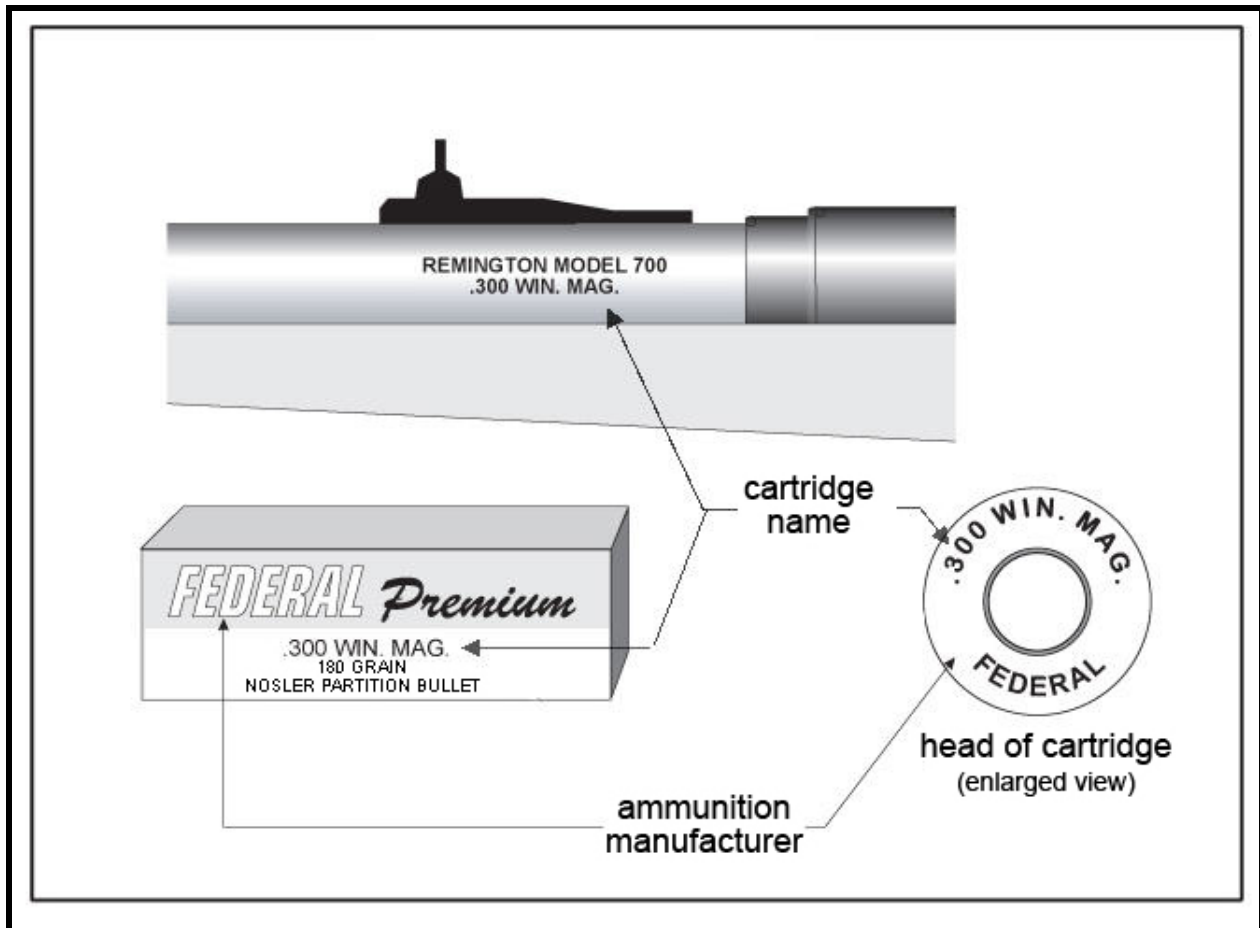

Figure 26. Data stamp on rifle barrel
- a. There are various ways of identifying or “naming” cartridges. Some cartridges have several names. The cartridge name, or an abbreviation of it, is stamped on the head of the case. It is also found printed on the ammunition manufacturer’s box (Figure 26).